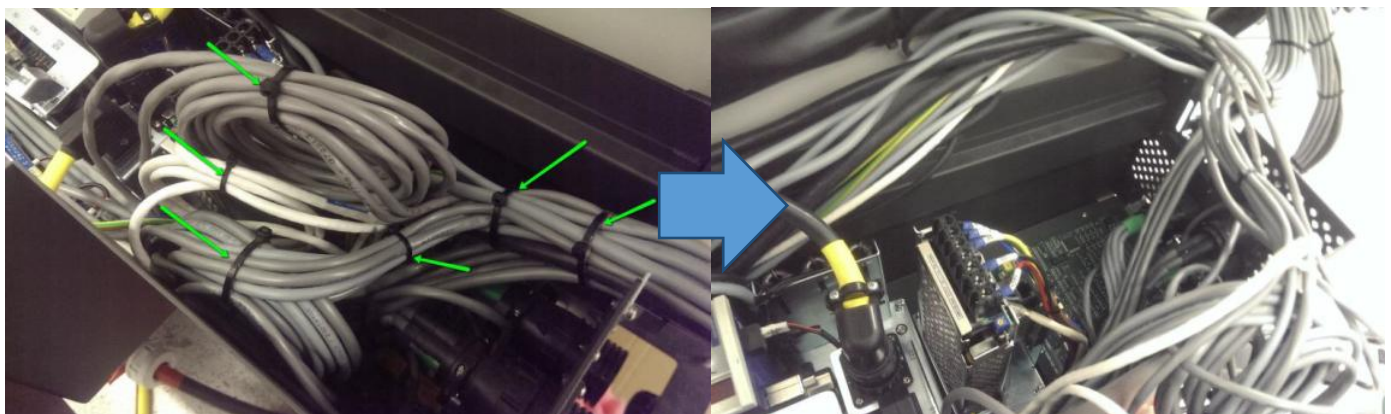

Figure 3 Cables positioning
4. Remove the cable tie. Slightly position cables at outer area of SSCA box for ease of removal and replacement as Figure 3.